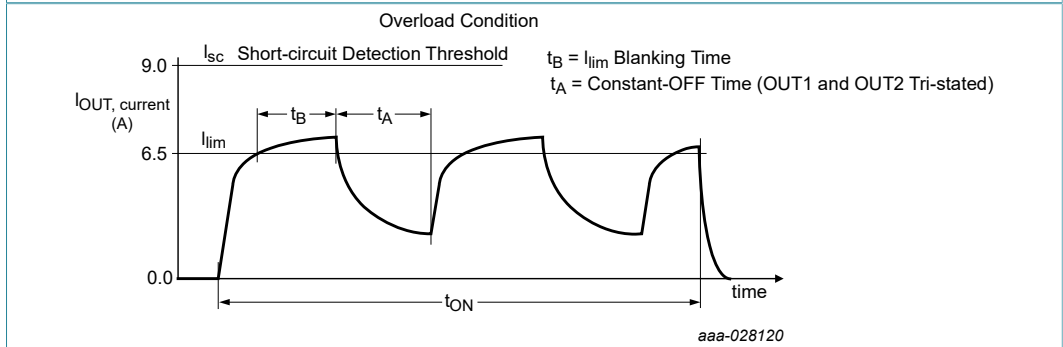
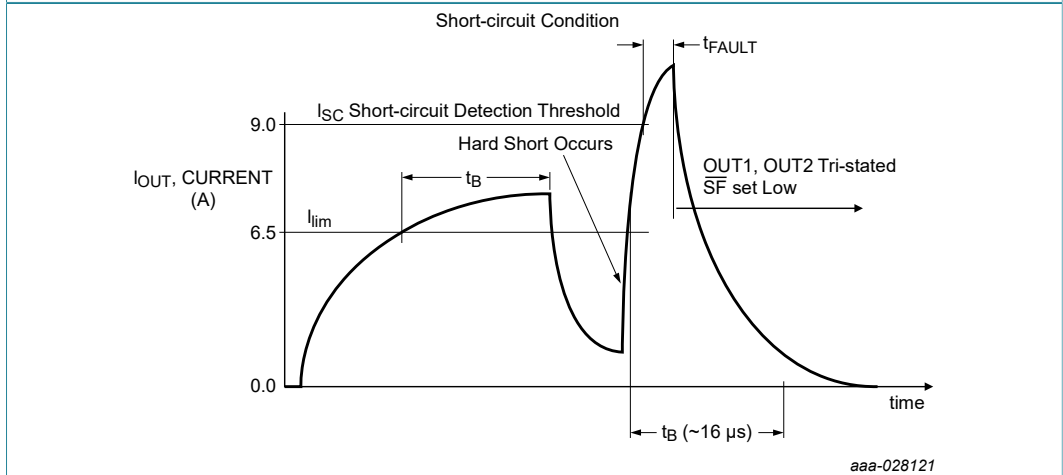
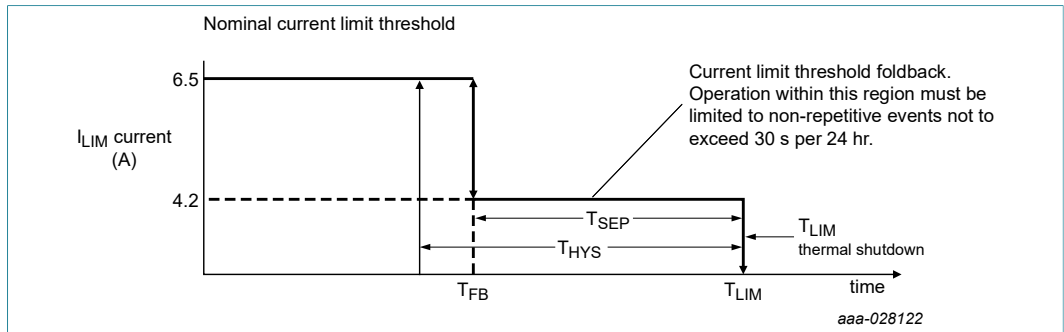

Figure 8. Current limit blanking time and constant-off time
Figure 9. Short-circuit detection turn-off time  $t_{FAULT}$
Figure 10. Output current limiting foldback region
- [9] Load currents ramping up to the current regulation threshold become limited at the  $I_{LIM}$  value (see Figure 8). The short-circuit currents possess a  $di/dt$  that ramps up to the  $I_{SCH}$  or  $I_{SCL}$  threshold during the  $I_{LIM}$  blanking time, registering as a short-circuit event detection and causing the shutdown circuitry to force the output into an immediate 3-state latch-off (see Figure 9). Operation in current limit mode may cause junction temperatures to rise. Junction temperatures above  $\sim 160\text{ }^\circ\text{C}$  causes the output current limit threshold to "foldback", or decrease, until  $\sim 175\text{ }^\circ\text{C}$  is reached, after which the  $T_{LIM}$  thermal latch-off occurs. Permissible operation within this foldback region is limited to non-repetitive transient events of duration not to exceed 30 seconds (see Figure 10).